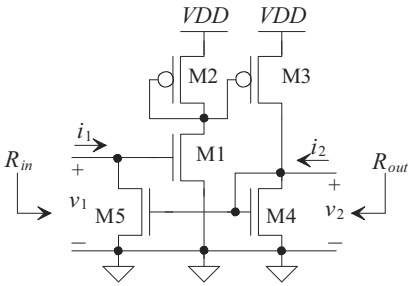

Figure 31.64 Feedback amplifier used in problem 31.26.
- 31.26** A feedback amplifier is shown in Fig. 31.64. Identify the feedback topology and determine the value of the voltage gain, $\frac{v_2}{v_1}$, R_{in} , and R_{out} .